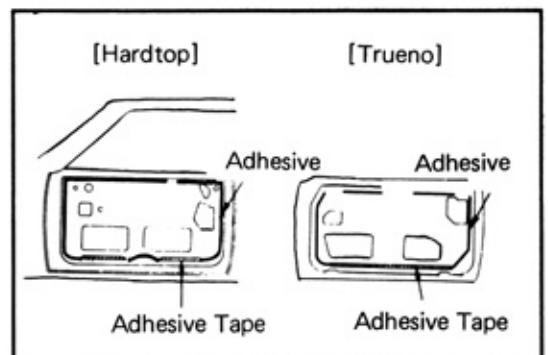

Fig. 2-108 Taping Location
**Install the service hole cover with adhesive. Stick on the tape at place shown in Fig. 2-108.**